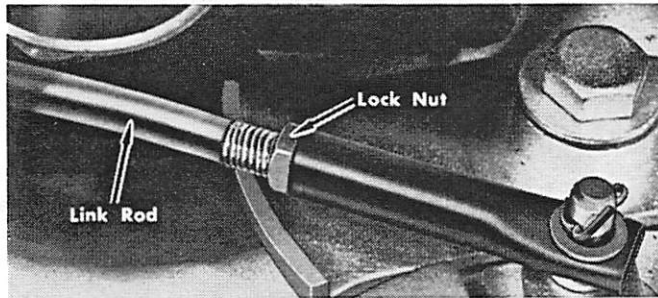

Figure 1. Upper Shift Shaft Adjustment
A. Upper Shift Shaft Adjustment (Figure 1)
3. Tighten lock nut on link rod. (Figure 1)